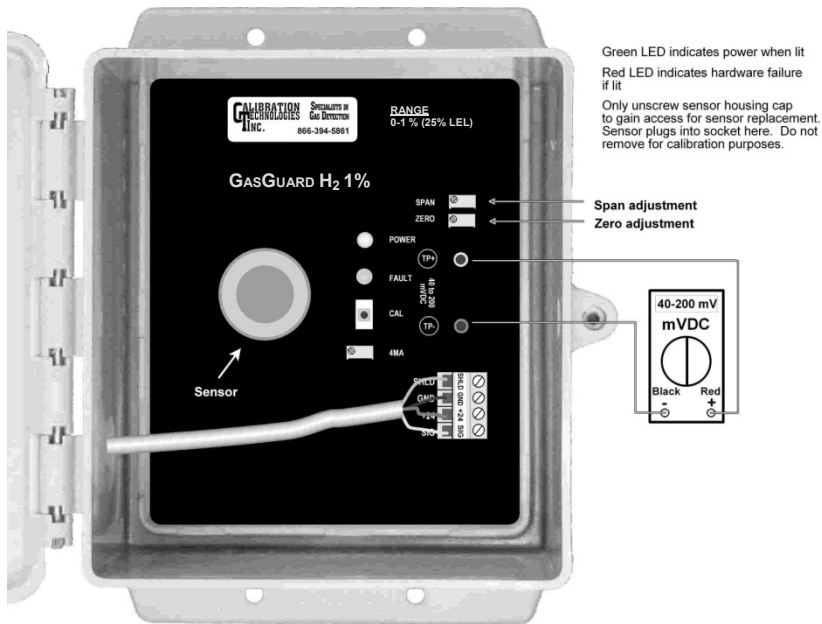

Figure 3: Sensor board components and zero/span adjustments
- Adjust the zero pot until the sensor outputs 40 mV from Test [-] to Test [+] (see **Figure 3**).
- Once the output signal has peaked (or two minutes maximum) adjust the span pot until the correct output is achieved (see **Figure 3**).